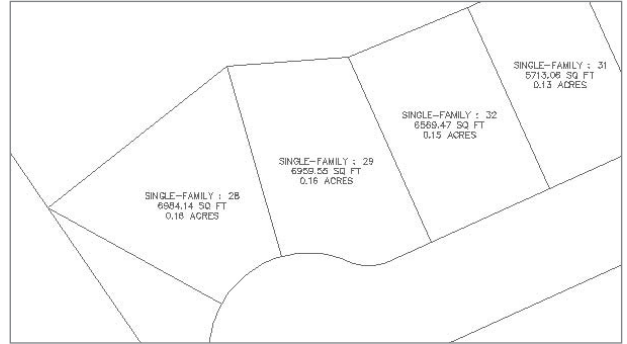

Figure A.28
11. At the **Select subentity to remove:** prompt, select each arc segment from the original rear lot line one by one until they are all deleted. The original lots will now have straight rear lot lines as shown in Figure A.28.